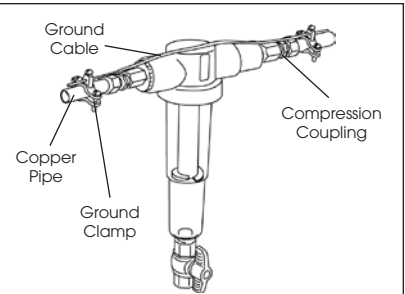

Fig 1. Installation for Copper Pipe.
2. When installing on metallic plumbing maintain proper electrical grounding. Do not overtighten threaded connections. Do not overheat filter when sweat soldering copper joints. (See Fig 1.)